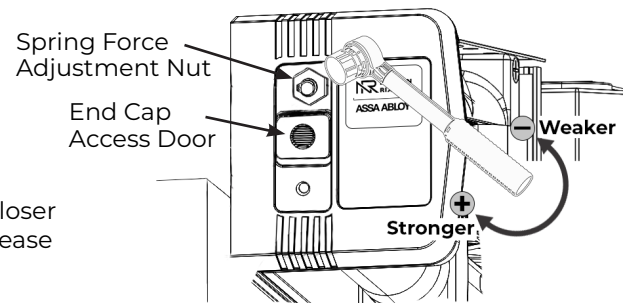

Figure 28
3. Using a ratchet with an 11/16" socket, turn the nut in end of closer body tube clockwise to increase or counterclockwise to decrease force until the desired setting is reached. (Figure 28)